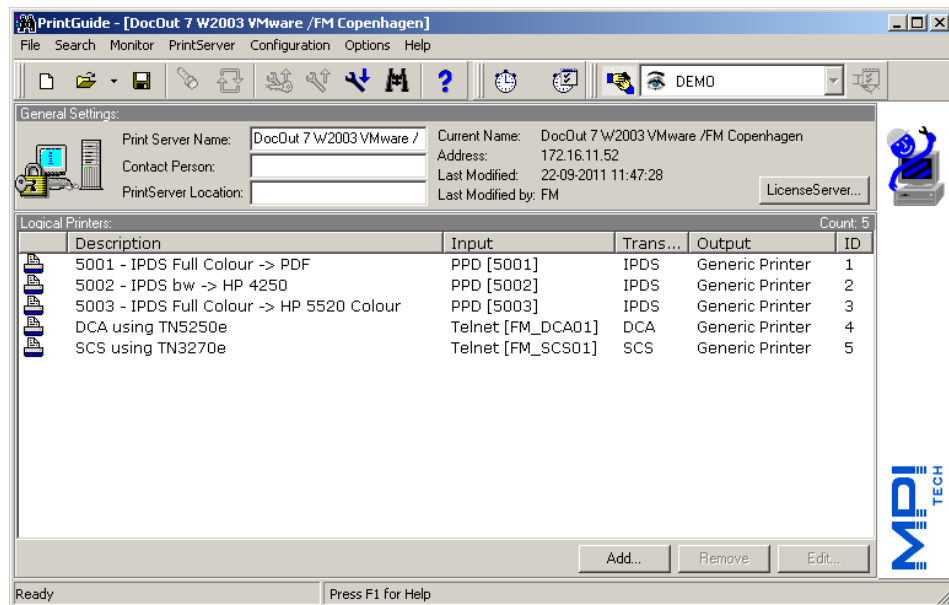

Figure 17
PrintGuide will enter into Configuration View, see Figure 17.
1. Press the **Add** button from the list of Logical Printers (See Figure 17.)